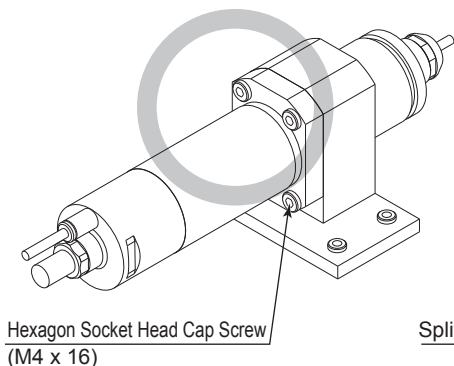

Fig. 13
This flange designed to eliminate deformation / damage of the Motor Spindle when performing the installation. When install a Motor Spindle, refer to Fig. 13.
- ① Insert the Motor Spindle housing diameter section into the machines tool plate bore.
- ② Secure the Motor Spindle through the counter-sunk holes (4 locations) on the flange using Hexagon Socket Head Screw (M4 x 16) as shown in Fig. 13.